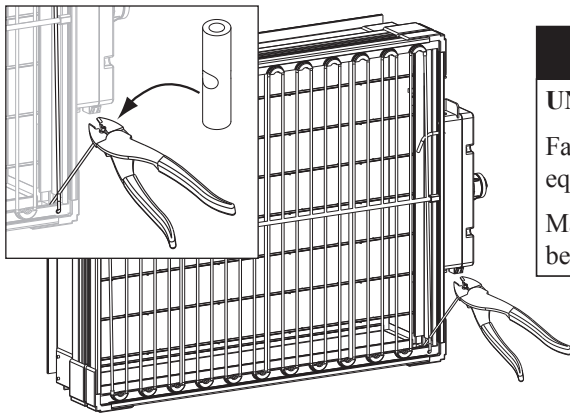

Fig. 13
- 6: Crimp the butt connector to the severed media cartridge enhancement grid wire (Fig. 13). Please note that the grid wires will typically be black.